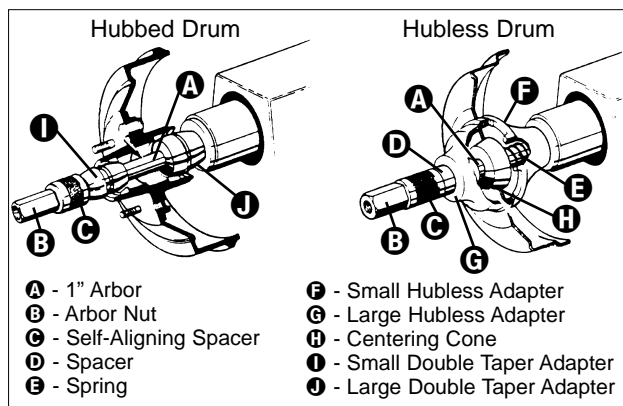

Figure 4 - Typical Drum Mounting Configurations
1. Determine the correct mounting configuration from the samples shown in Figure 4.
**2.** Mount the drum on the arbor using the proper adapters, cones, and spacers. Refer to Figure 4 for mounting instructions and typical mounting configurations.